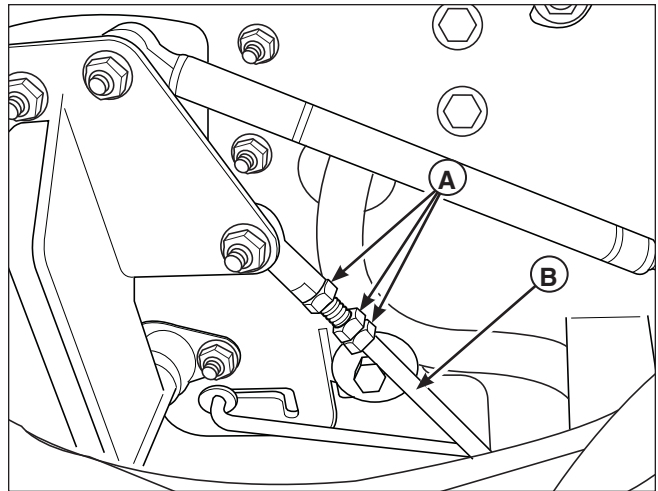

Figure 35. Return-to-Neutral Adjustment
3. Move the ground speed control levers out towards the neutral position. If the levers do not align with the notches in the neutral lock plate, it is necessary to adjust the neutral return rod (B, Figure 35).
2. There are three jam nuts (A, Figure 35) on the linkage rod (B). The first two are used together to turn the rod and the third (towards the front of the machine) is used to lock the rod in place. Loosen the jam nut that locks against the ball joint and turn the linkage rod to adjust. If the machine creeps forward, turn the linkage rod CLOCKWISE (while standing at the rear of the machine, facing forward). If the machine creeps backward, turn the rod COUNTER-CLOCKWISE.
3. Lock the jam nut (A) against the ball joint when neutral is achieved.